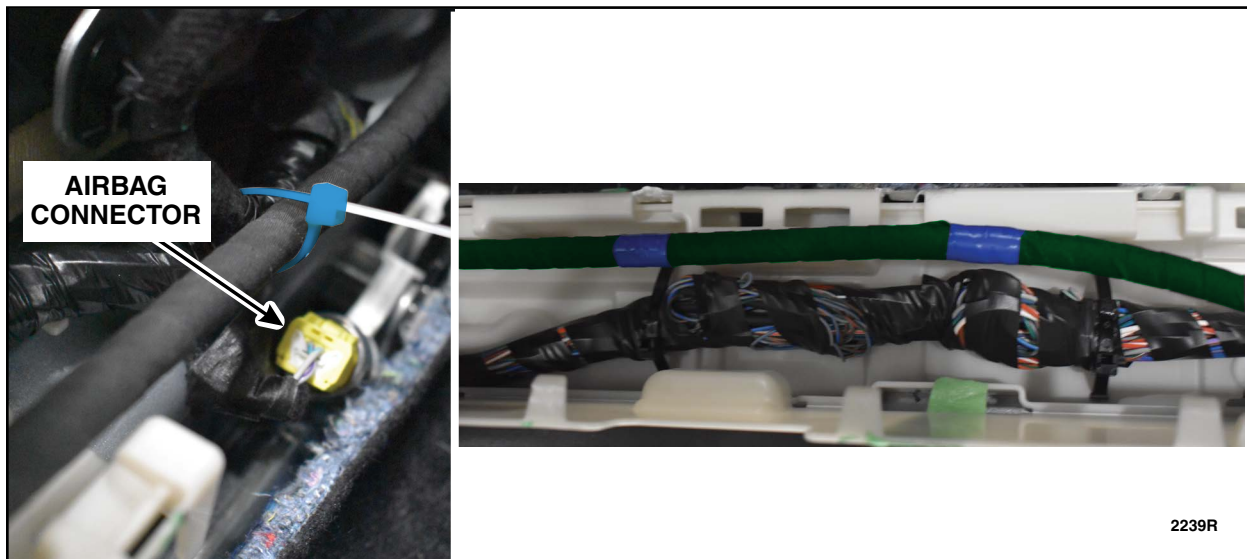

FIGURE 19
24. Continue to route wire harness through the door pillar area, moving towards the rear cargo area. See Figure 19.